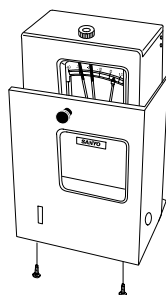

Fig. 11
2. Attach the temperature recorder (MTR-4014LH) to the recorder fixture (MPR-S30: optional component) by referring to the instruction manual enclosed with the recorder fixture. (Fig. 11)
2. Attach the temperature recorder (MTR-G3504) to the recorder fixture (MPR-S7: optional component) by referring to the instruction manual enclosed with the recorder fixture. (Fig. 11)